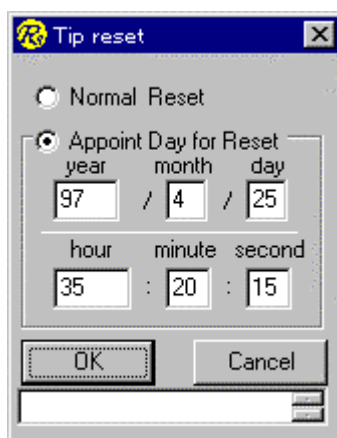

Figure 8-17: Uptime Status Table Time-setting Screen (1)
3. When the correct password is entered, **Figure 8-17** appears with respect to Tip, and Stage X-T.